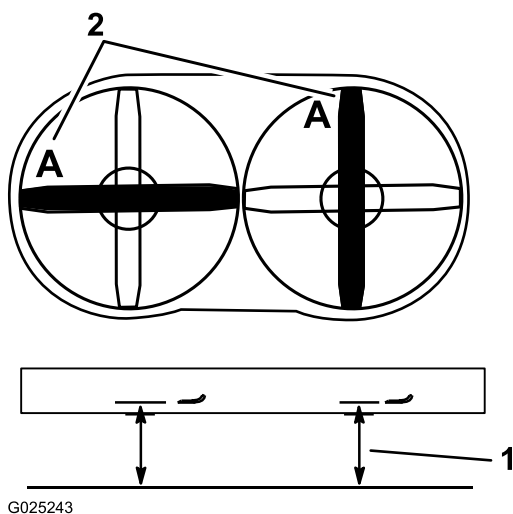

Figure 65
3. Rotate one blade as shown in Figure 65.
4. Measure from a level surface to the cutting edge at position **A** of the blade (Figure 65). Note this dimension.